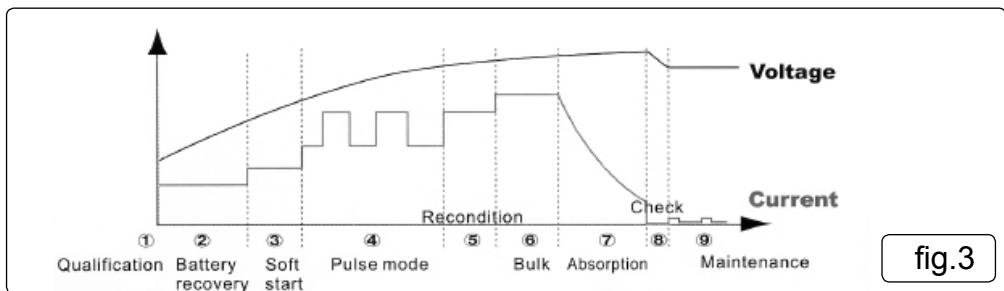

fig.3
- 5.1. The SMC04.V2 charger has a nine step fully automatic charging cycle as shown fig.3, which is indicative of the typical charging curve for a battery.